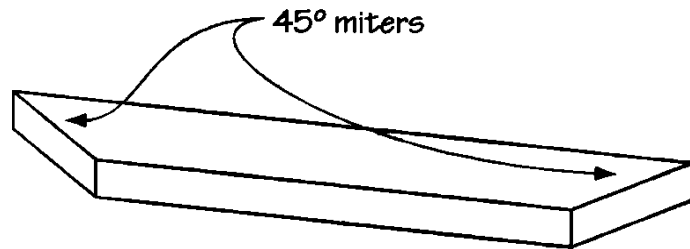
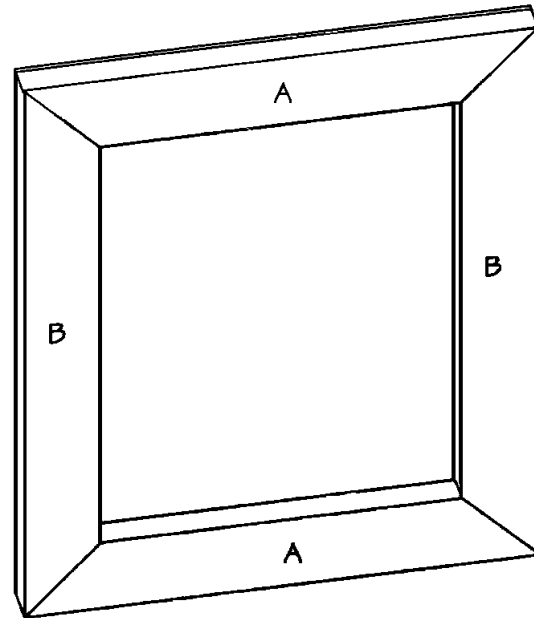
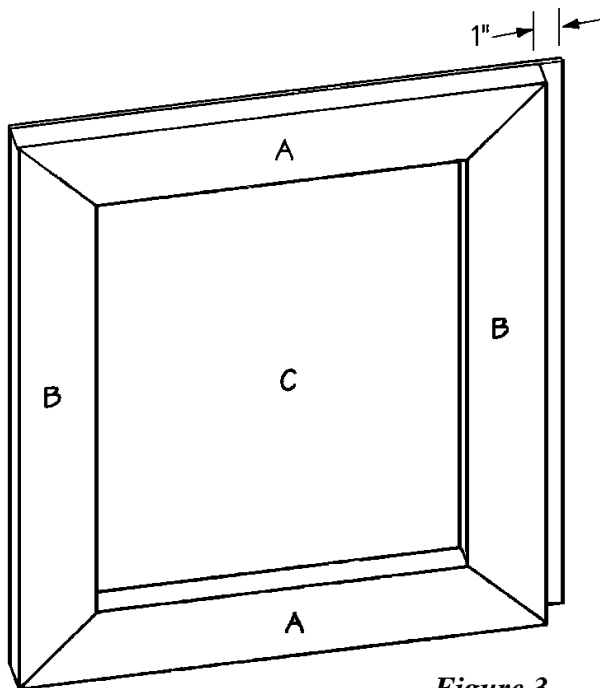
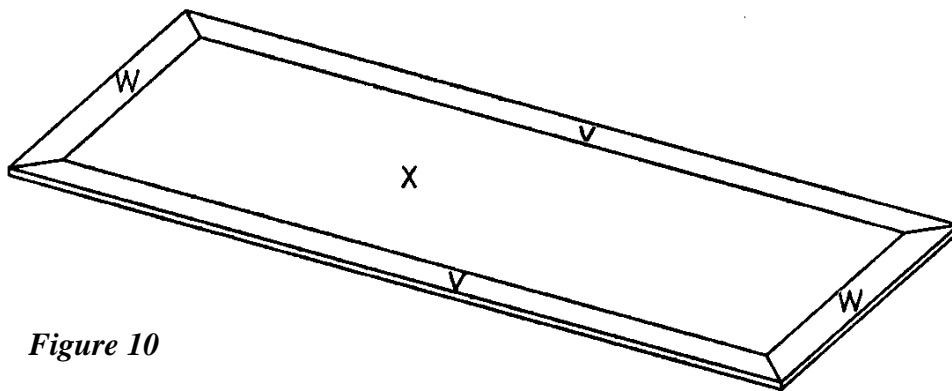

Figure 1
Figure 2
Figure 3
Figure 10
1. Cut eight short frames (A) from 2 x 4 pine, each measuring 23-1/4 inches long.
2. Miter the ends of each of the eight short frames at opposing 45-degree angles, as shown in *Figure 1*.
3. Cut eight long frames (B) from 2 x 4 pine, each measuring 28 inches long.
4. Miter the ends of each of the eight long frames (B) at opposing 45-degree angles, as shown in *Figure 1*.
5. Cut four sides (C) from 1/4-inch plywood, each measuring 24-1/4" x 28".
6. Place two long frames (B) on a level surface, parallel to each other and 21 inches apart, as shown in *Figure 2*. Place two short frames (A) between the ends of the long frames (B), matching miters, to form a 23-1/4 x 28-inch rectangle. Apply glue to the meeting surfaces and nail one side (C) over the four frames (A and B), as shown in *Figure 3*. Note that one 28-inch edge of the side (C) extends 1 inch past the frame assembly. Use 1-1/4-inch (3d) finishing nails spaced every four inches.
1. Cut two long top trims (V) from 1 x 4 pine, each measuring 79 inches long.
2. Miter both ends of each long top trim (V) at opposing 45-degree angles, as shown in *Figure 1*.
3. Cut two short top trims (W) from 1 x 4 pine, each measuring 31-3/4 inches long.
4. Miter both ends of each short top trim (W) at opposing 45-degree angles, as shown in *Figure 1*.
5. Cut one desk top (X) from 3/4-inch plywood, measuring 24-3/4 x 72 inches.
6. Place the desktop (X) on a level surface. Position the long and short top trims (V and W) along the outer edges of the desktop (X), as shown in *Figure 10*. Apply glue to the meeting edges, and clamp the five pieces of wood together with pipe clamps for a few hours. The result is a desktop that now measures 31-3/4 x 79 inches.
7. Place the two base assemblies on a level surface, parallel to each other and 24-1/2 inches apart. Center the desktop over the two base assemblies. Attach the three pieces together by screwing through the top horizontal supports (G) into the desktop. Use three 2-inch screws on each joint. Do not use glue, as you would be unable to disassemble the desk for moving.